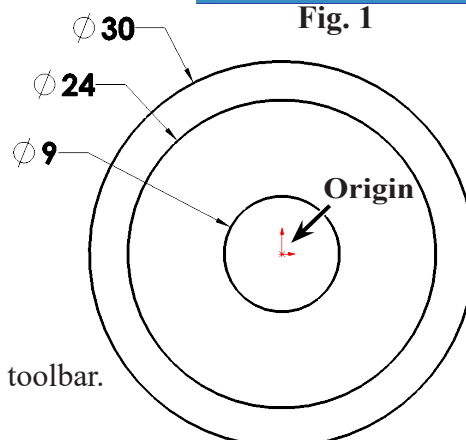

Fig. 2
Step 3. Click **Circle**  (S) on the Sketch toolbar.
Step 4. Sketch **three circles at Origin** , **Fig. 2**.
Step 5. Click **Smart Dimension**  (S) on the Sketch toolbar.
Step 6. Dimension **diameters 30 and 24 and 9**, **Fig. 2**.